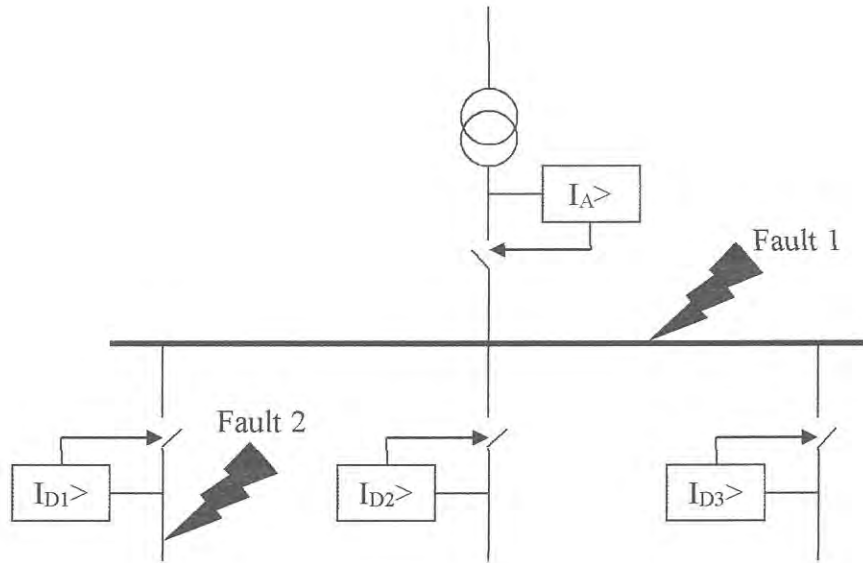

Figure Q3(c)
- Q3** (a) The flow of harmonics reduces power quality and consequently causes a number of problems. List **THREE (3)** possible consequences of harmonics in industrial power systems. (3 marks)
- (c) **Figure Q3(c)** shows a feeder overcurrent protection scheme in which *A* represents the incoming feeder and *D* represents the outgoing feeders.